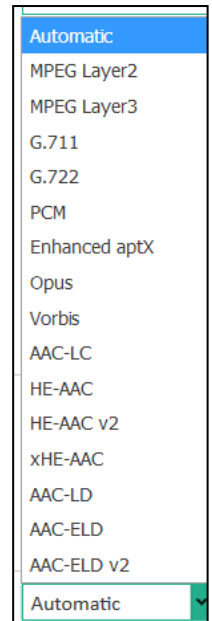

Figure 15: Audio Decoder Format
- To predefine the codec type for Decoder, choose the audio codec or set “Automatic” in the dropdown menu **Decoder Type**. For available formats see Figure 15 on page 33).
- To predefine the codec type for Decoder, choose the audio codec or set “Automatic” in the dropdown menu **Decoder Type**. For available formats see Figure 15.